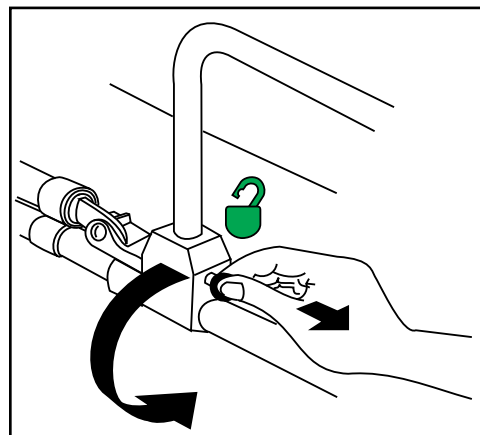

Figure 14 - Releasing the Sidearm Lock
- **To lower**, pull the locking-pin knob (Figure 14) and swing the sidearm down.